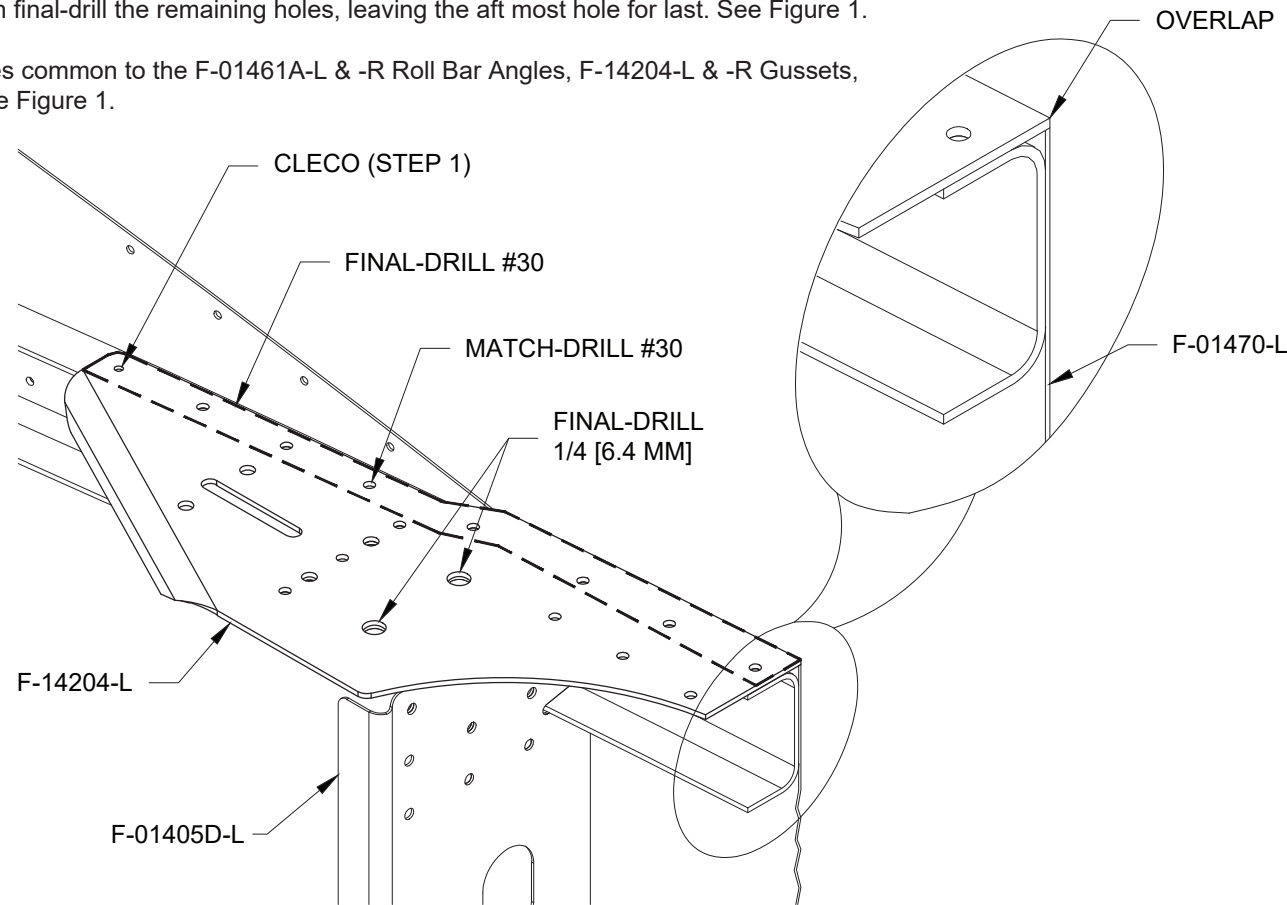

FIGURE 1: MATCH-DRILL GUSSET
Step 7: Cleco, temporarily bolt, and rivet the F-14204-L & -R Gussets to the Upper Longeron Assemblies. See Figure 1, Figure 2, and Page 29-21, Figure 1.